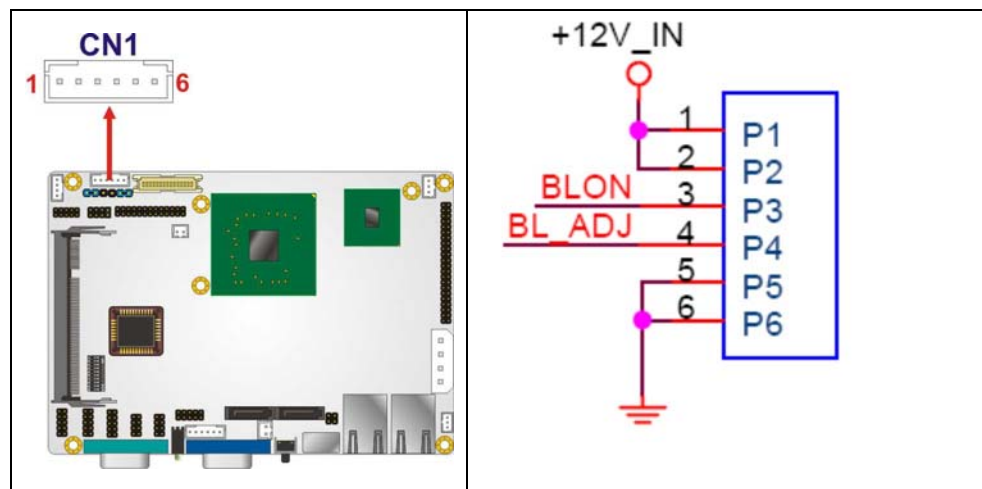

Figure 4-4: Panel Backlight Connector Pinout Locations
- CN Location:** See **Figure 4-4**